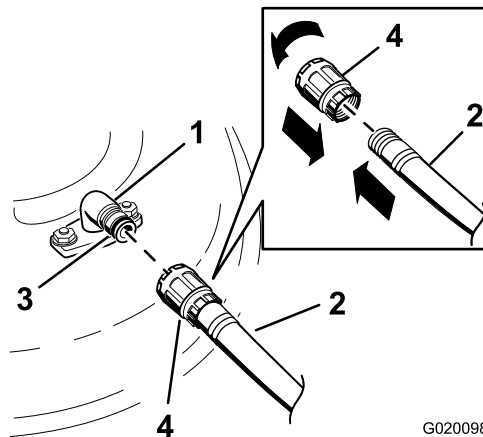

Figure 77
- Attach the hose coupling to the end of the mower washout fitting, and turn the water on high (Figure 77).